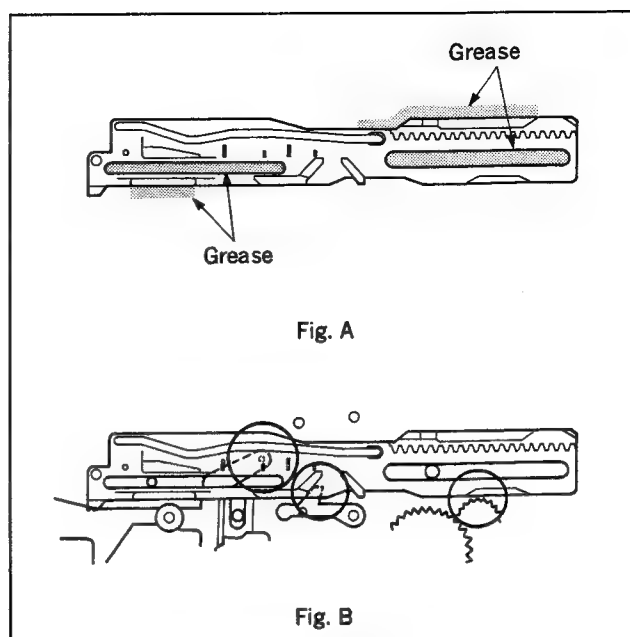

Fig. 4-24-3 M slider installation
- 1) Replace M slider with a new one, then smear grease to the points indicated in Fig.A of Fig.4-24-3.